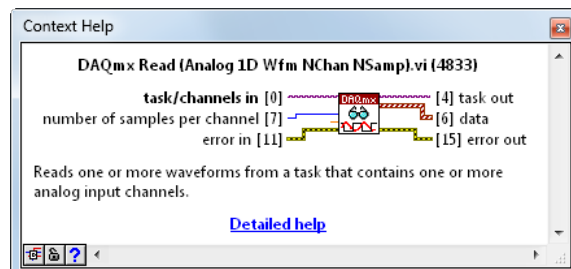

Figure 4. The Context Help dialog gives you detailed information about every VI, as well as its expected inputs and output values.
- d. One at a time, hover over the VIs on the block diagram and examine their functionality as described in the Context Help window, as shown in Figure 4.